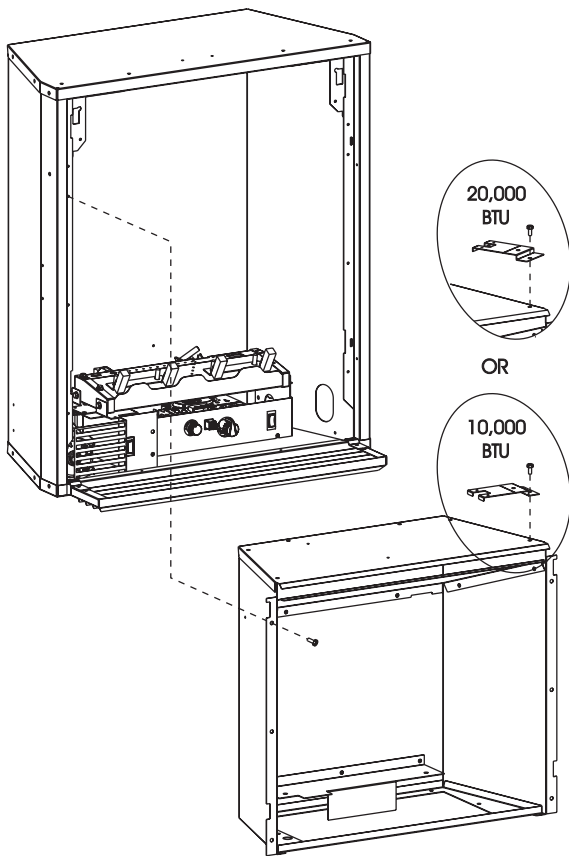
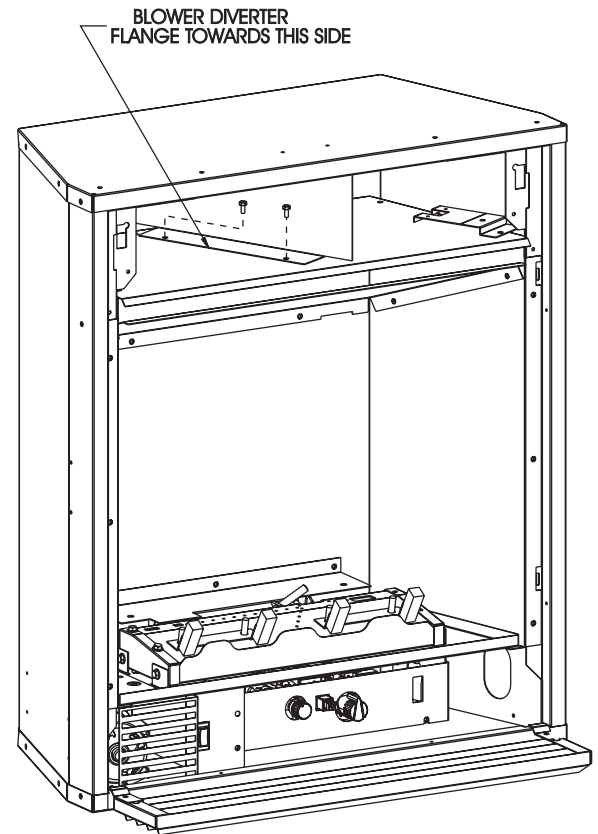

Figure 5
Figure 6
28. Place fan control bracket with wires on top of inner casing. Remove right, front 10 x 1/2" screw from top of inner casing. Attach fan control bracket to top of inner casing with 10 x 1/2" screw. Refer to Figure 5 for correct position of fan control bracket for 10,000 Btu input or 20,000 Btu input.
29. Attach inner casing to outer casing with six (6) 10 x 1/2" screws from Step 6. Tighten two (2) 10 x 1/2" screws at interior, top of inner casing that were loosened in Step 6.
30. Attach burner assembly to inner bottom with three (3) 10 x 1/2" screws from Step 5.
31. Attach rear log support to inner casing with three (3) 10 x 1/2" screws from Step 4.
32. Place and align blower diverter on top of inner casing. Attach deflector to top of inner casing with two (2) 10 x 1/2" screws. (See Figure 6)
33. Attach top louver with two (2) 8 x 1/2" Phillips screws from Step 3.